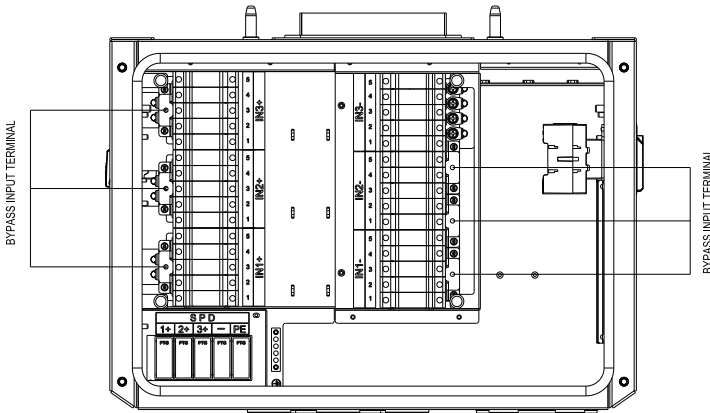

Figure 3-26 Bypass Terminal option installed within the Standard wirebox
5. Bypass Terminal option for standard wirebox. **Fuse Bypass Terminals are available as an optional accessory when external PV string fused combiners are used. The Bypass Terminals allow for larger single conductors to be terminated at each MPPT within the wirebox, bypassing the input fuses as shown in Figure 3-26. See Section 9 Accessories for installation information.**